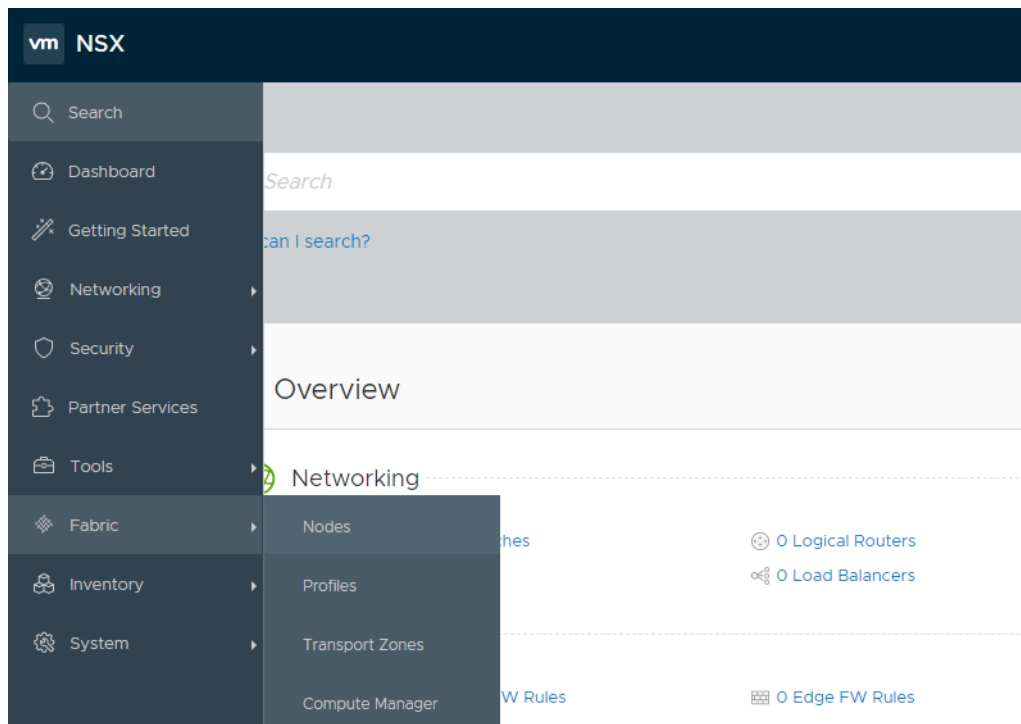

Figure D-2. NSX Home Page
1. Login to the NSX manager and navigate to the home page (Figure D-2).
1. Navigate to the NSX home page (Figure D-2).